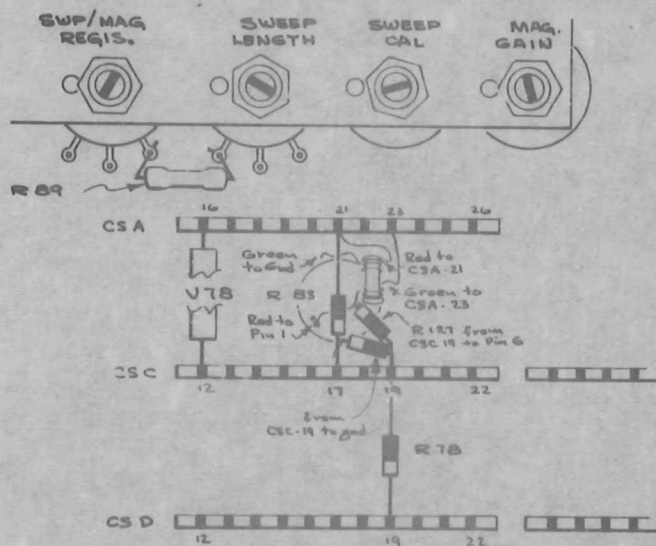

Fig. 6
31. Install T129, a 6-turn bifilar wound transformer, as follows (see Fig.6):
- () 32. Solder the 22pf capacitor (from kit) between pin 5 of V78 and CSA-21 (see Fig.6).
- () 33. Replace R78 (47k, 1/2w or 36k, 1/2w resistor) connected between CSC-19 and CSD-19 with a 10meg 1/2w resistor from the kit (see Fig.6, R78).
- () 34. Solder the 10k 1/2w resistor (from kit) between pin 6 of V78 and CSC-19 (see Fig.6, R127).
- () 35. Solder R126 (a 36k 1/2w resistor, from kit) between CSC-19 and tube socket ground lug of V78 (see Fig.6).
- () 36. Resolder the end of the 68k resistor (R840, unsoldered in step 9) to CSA-20 (see Fig.6).
- () 37. Solder a 1.8meg resistor (from kit) between CSA-21 and CSC-17 (see Fig.6, R83).